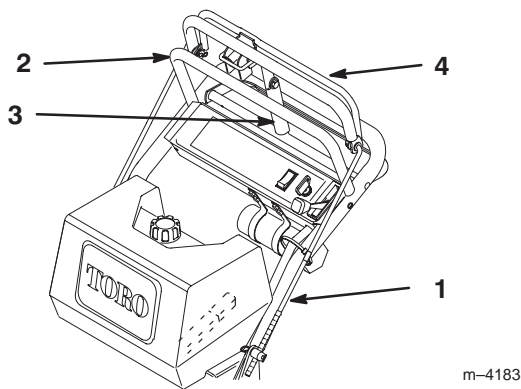

Figure 8
3. Check the gap between upper control bar and fixed control bar with wheel drive fully engaged. Gap should be approximately 1 to 1-1/4 in. (25–32 mm) (Fig. 8).
5. Check parking brake adjustment. Brake rods should be adjusted so parking brake lever is snug when swung into position against the fixed bar while pulling back on upper control bar (Fig. 8).